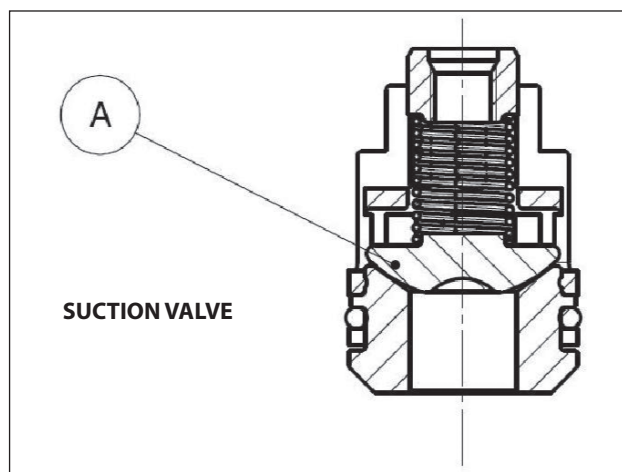
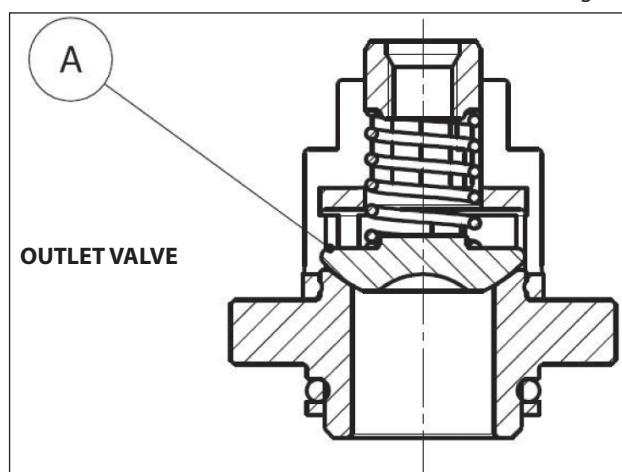

Fig. 26
Fig. 27
2. **On the HS18 version, moreover, take care not to reverse the suction ball valves with the outlet valve "A" (Fig. 26, Fig. 27), exploded view pos. 46 as indicated in chapter 16 of the Use and maintenance manual.**